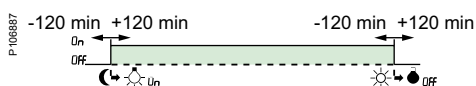

Fig. 5.
- Adjustment of difference in sunset and/or sunrise times by ± 120 min. according to local constraints (mountains, buildings, etc.) (see Fig. 5).